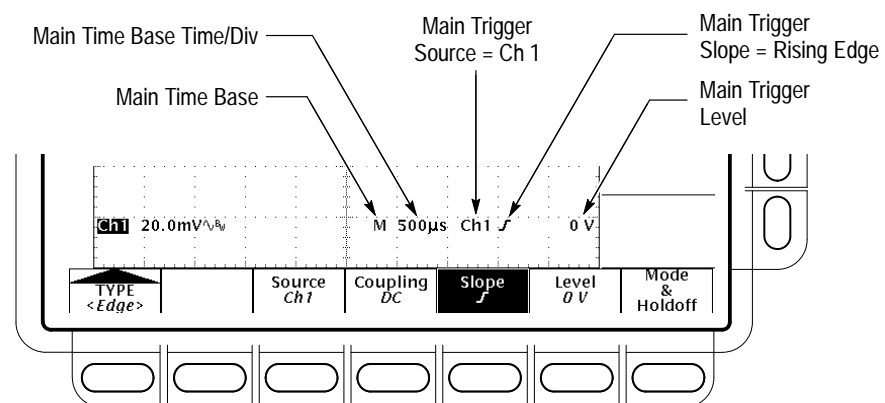

Figure 3–32: Edge Trigger Readouts
**To Check Edge Trigger Status** To quickly check if edge triggers are selected, check the Trigger readout. When edge triggers are selected, the trigger readout displays the trigger source, as well as the trigger slope and level. (See Figure 3–32.)